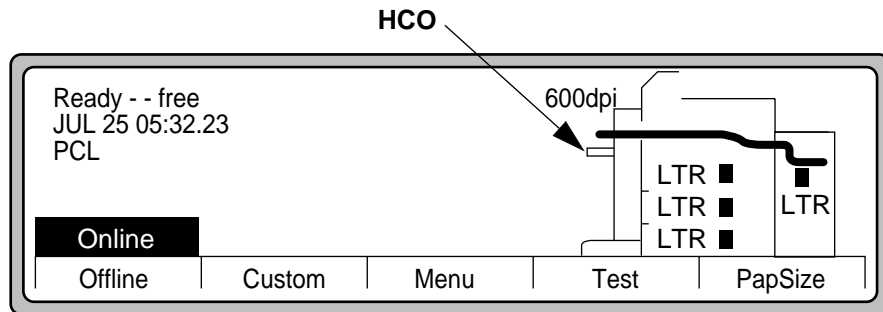

Figure 4-35 Main Screen with HCO Set to Face-Up Output
6. The Main Screen display shows the HCO as the paper output tray. See Figure 4-35.